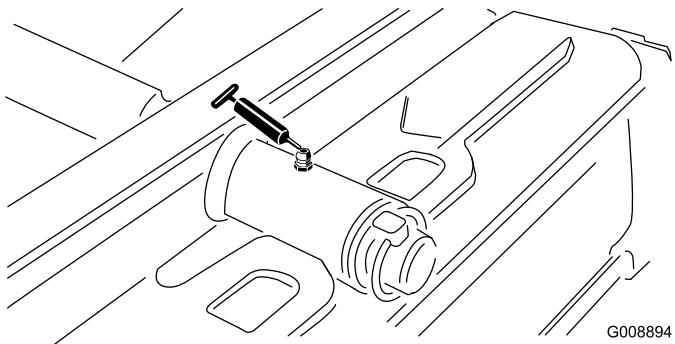

Figure 44
- Rear cutting unit pivot (Figure 44)